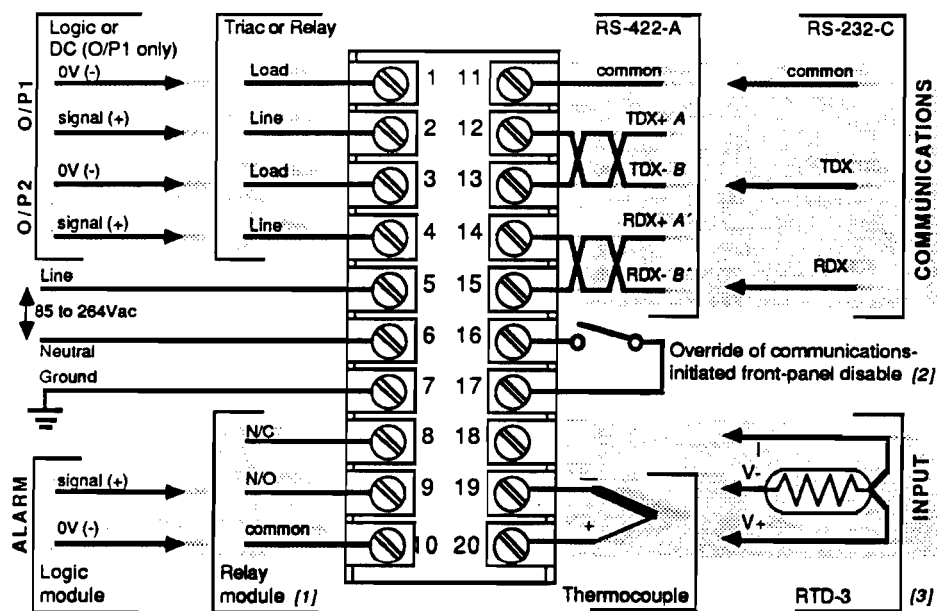

Figure 3.1. Models 808 and 847 external connections.
- Refer to Figure 3.1 and to Tables 3.1 through 3.6 for rear terminal designations and for wiring the power, outputs, and signal inputs.